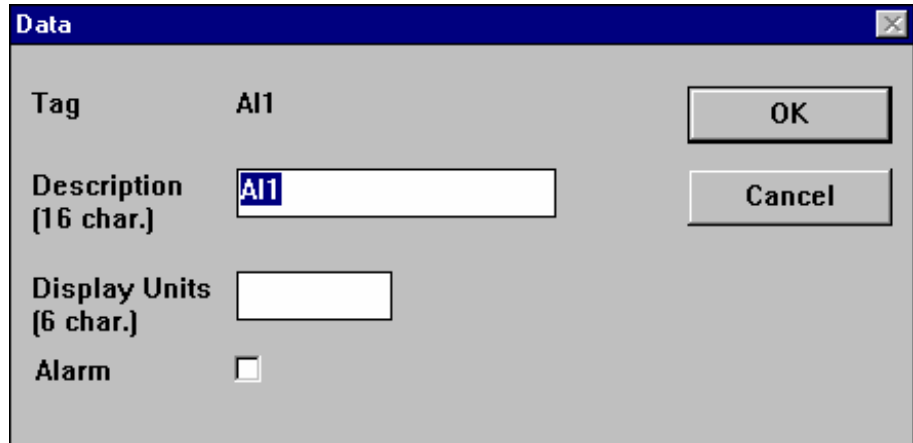

Figure 13-6: Data Dialog Box Example
6. Highlight the individual point and click OK. A Data dialog box appears (Figure 13-6).